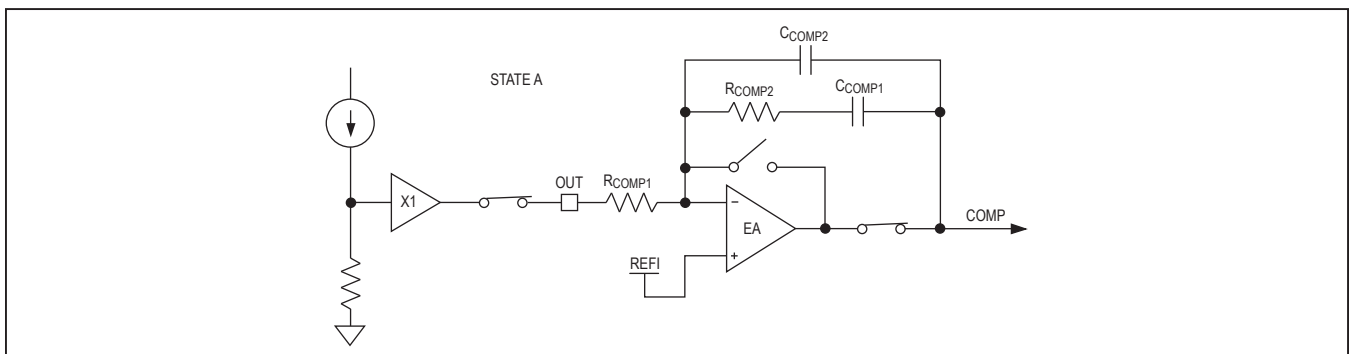
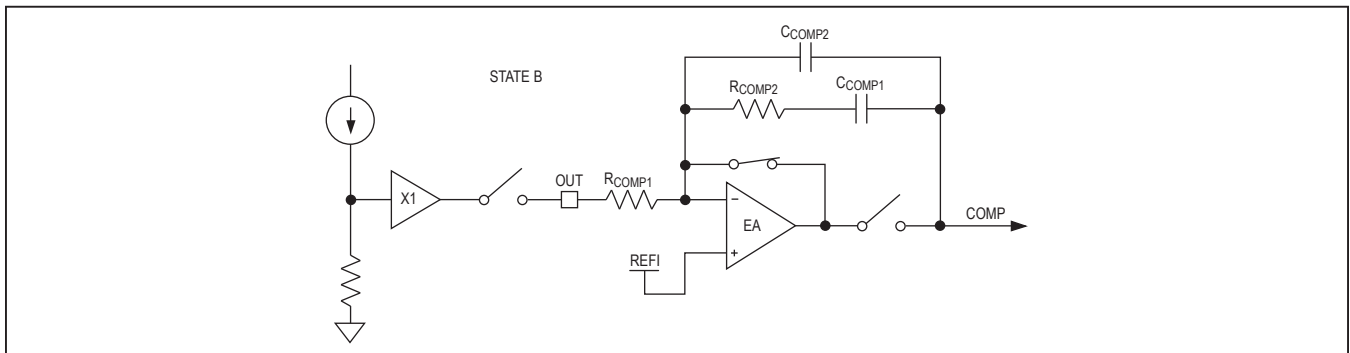
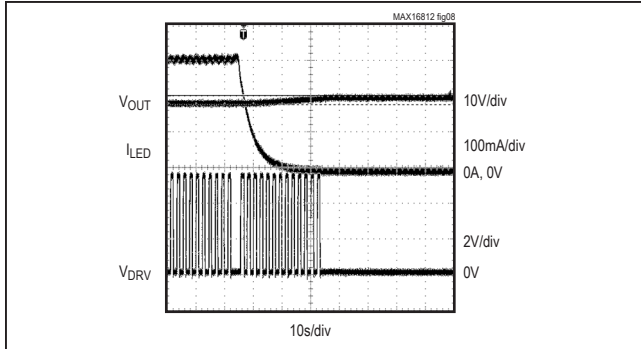

Figure 4. Internal Error Amplifier Connection (Dimming Signal High)
Figure 5. Internal Error Amplifier Connections (Dimming Signal Low)
Figure 8. LED Current, Output Voltage, and DRV Waveforms when DIM Signal Goes Low
The MAX16812 includes a built-in voltage-error amplifier, which can be used to close the feedback loop. The internal LED current-sense output signal is buffered internally and then connected to CS_OUT through an internal switch. CS_OUT is connected to the inverting input (FB) pin of the error amplifier through a resistor. See Figures 4 and 5. The reference voltage for the output current is connected to REF1, the noninverting input of the error amplifier. When the internal dimming signal
is low, COMP is disconnected from the output of the error amplifier and CS_OUT is simultaneously disconnected from the buffered LED current-sense output signal (Figure 5). When the internal dimming signal is high, the output of the op amp is connected to COMP and CS_OUT is connected to the buffered LED current-sense signal at the same time (Figure 4). This enables the compensation capacitor to hold the charge when the DIM signal has turned off the internal switching MOSFET gate drive. To maintain the charge on the compensation capacitors CCOMP1 and CCOMP2, the capacitors should be of the low-leakage ceramic type.
PWM dimming can also be achieved by connecting TGRM to a DC voltage less than V_{REF} and applying the PWM signal at DIM. The moment the internal dimming signal goes low, gate drive DRV to the internal switching MOSFET is turned off. The error amplifier goes to state B (see the *Internal Error Amplifier* section and Figures 4 and 5). The peak current in the inductor prior to disabling DRV is I_{LX} . Gate drive DGT to the external dimming MOSFET is held high. Then after a switchover period, gate voltage V_{DGT} on the external dimming MOSFET is linearly controlled to reduce the LED current to 0. The fall time of the LED current is controlled by an internal timing circuit to $5\mu s$ for the MAX16812. During this period, the gate (DRV) to the internal switching MOSFET is enabled. After the fall time, the gate drive to the external dimming MOSFET is turned off and the gate drive to the internal switching MOSFET is still held high after the switchover period. The peak current in the inductor is controlled at I_{LX} . Then after a time period of $20\mu s$, the gate drive is disabled. The scope shots in Figures 8–11 show the dimming waveforms.
When the DIM signal goes high, the LED current is gradually increased to the programmed value. The rise time of the LED current is controlled to $5\mu\text{s}$ for the MAX16812 by controlling the voltage on DGT. After the rise time, an internal sensing circuit monitors the voltage across the drain to the source of the external dimming MOSFET. The LED current is now controlled at the programmed value by a linear current regulating circuit. Once the voltage across the drain to source of the dimming MOSFET drops below 0.5V, the reference for the linear current regulating circuit is increased to 1.1 times the programmed value. The gate drive (DRV) to the internal switching MOSFET is enabled and the error amplifier is returned to state A (see the *Internal Error Amplifier* section and Figures 4 and 5).